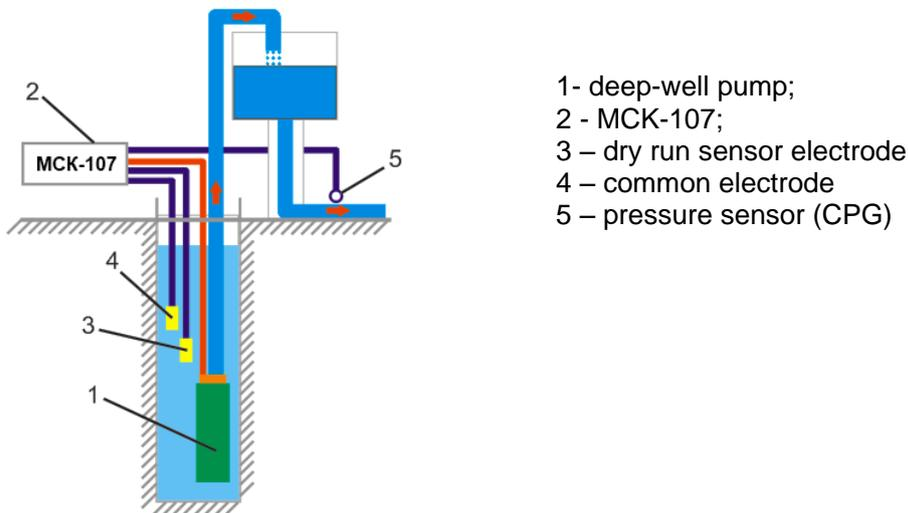

Figure 2.4 – Application of MCK-107 in the filling mode with pressure sensor
- filling mode with a level sensor (Figure 2.4);